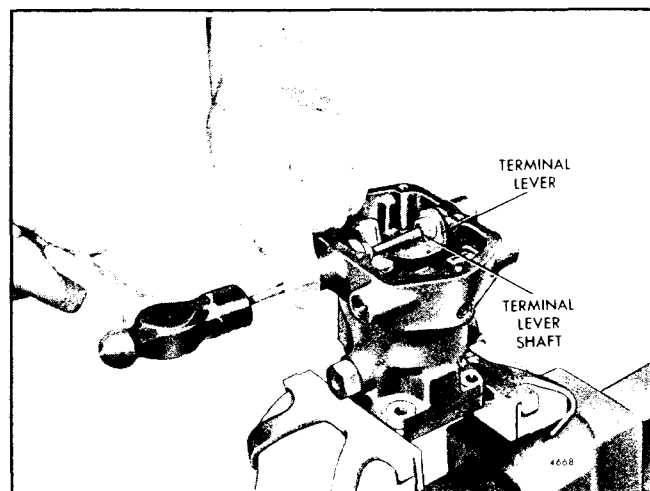

Fig. 10 - Removing Cup Plug from Governor Housing
16. Place a 1/4" brass rod, approximately 5" long, against the inner end of the terminal lever shaft, then drive the governor housing cup plug out of the boss at the side of the housing as shown in Fig. 10.
9. Drive on the lower edge of the terminal lever shaft sleeve cup plug with a small punch and hammer as shown in Fig. 10 to force the upper edge out of the sleeve. Then pull the plug out of the sleeve with a pair of pliers.